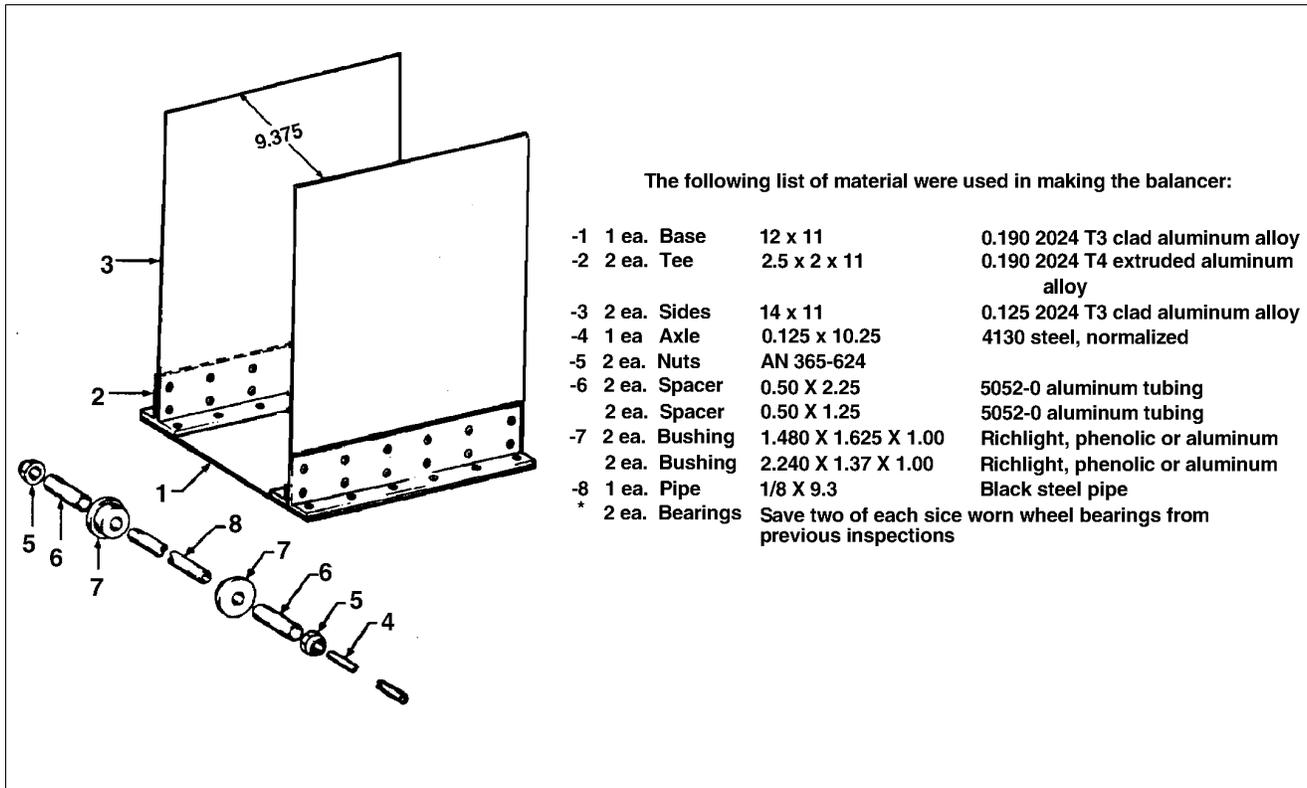

Figure 12-3. Wheel Balancer
Proper balancing is critical for the life of aircraft tires. If a new tire is balanced upon installation it will usually remain balanced for the life of the tire without having any shimmy or flat spots. An inexpensive balancer can be made that will balance almost any tire for light aircraft. See Figure 12-3 for balancer details. Balance the tire as follows:
- (1) Mount tire and tube (if one is used) on wheel, but do not install the securing bolts. Install wheel bearings in wheel; then, using the -7 bushings, -6 spacers, and -5 nuts, (refer to Figure 12-3) install the wheel-tire assembly on the pipe. Secure the nuts finger-tight so that the wheel halves touch each other. Be sure the bolt holes are aligned. Insert the axle through the pipe and place the wheel in the center of the balancer. Make sure the axle is only on the chamfered edges of the balancer and that it is at 90° to the sides of the balancer.
- (2) Release the tire. If it is out of balance it will rotate, coming to rest with the heaviest point on the bottom. Tape a 1/2 ounce patch across top center of the tire. Rotate the tire 45° and release it again. If the tire returns to the same position, add a 1 ounce patch and again rotate the tire and release it. Continue this procedure until the tire is balanced.
- (3) When balance is attained, put a chalk mark on the sidewall directly below the patch. Use one mark for each half ounce of weight needed. Mark the valve stem location on the tire and the opposite wheel half to assure reassembly in the same position. Remove the wheel from the balance stand, break it down and clean the inside of the tire with toluol. Apply a coat of patch cement to both the patch and the inside center of the tire in line with the chalk marks. When the cement has dried, install the patches making certain they are on the center line of the tire and aligned with the chalk marks on the sidewall. Burnish the patches to remove trapped air, etc.
- (4) When reassembling the wheel, powder the inside of the tire. Mount the tire on the valve side of the wheel in the same position it was in when it was balanced. Install the other wheel half, aligning the chalk marks. Install the bolts and tighten to required torque, then air the tire and recheck the balance. The wheel should not be more than 1/2 ounce out of balance.